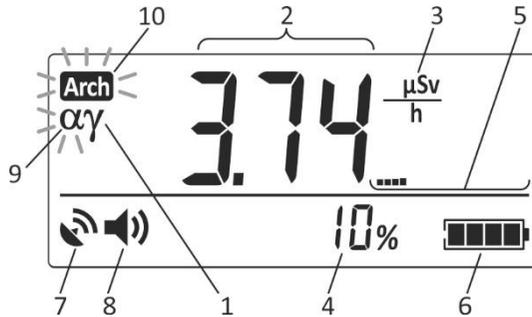

Figure 2.11 – LCD of the dosimeter
A blinking **Arch** symbol is indicative of critical filling of the nonvolatile memory and, therefore, of the possibility of information loss ((10) Figure 2.11). **Arch** symbol is briefly highlighted at a 4 second interval in all modes and submodes of the dosimeter except for the "Measurements results viewing stored in the nonvolatile memory" mode and "Measurement result saving in the nonvolatile memory" submode, if the circular buffer intended for DE accumulation history autosaving can provide for less than 10 DE records, or if information has already been lost.
2.3.6.5.1.2 When photon ionizing radiation DER is measured using ABG probe, alpha radiation presence is also monitored. When alpha radiation is registered (when the pulse count rate from alpha radiation detector exceeds the value of 1 cps), the dosimeter's LCD begins to display a blinking "α" symbol ((9) Fig. 2.11) and generates typical sound and light alarms. Open the alpha detector window for correct registration of alpha radiation (Fig. 2.21).
2.3.6.5.2.3 In this mode the dosimeter's LCD displays the following (Figure 2.11):
- “ $\gamma$ ” symbol (1) – radiation type being measured;
- DER measurement result (2);
- DER measurement result dimension (3);
- estimated limits of the expected relative statistical deviations (4) of the measurement result (2) given 0.95 confidence probability – hereinafter referred to as the specified limits of statistical deviations.
- indicator of instantaneous DER value (5).
- battery status symbol (6);
- navigation receiver status symbol (7);
- status symbol of registered gamma quanta, alpha or beta particles signaling (8);
- symbol of alpha radiation presence (9) (when DER is measured using ABG probe);
- sign (10) of critical filling of the nonvolatile memory of the dosimeter, where DE accumulation history is stored (2.3.4 of this operating manual).